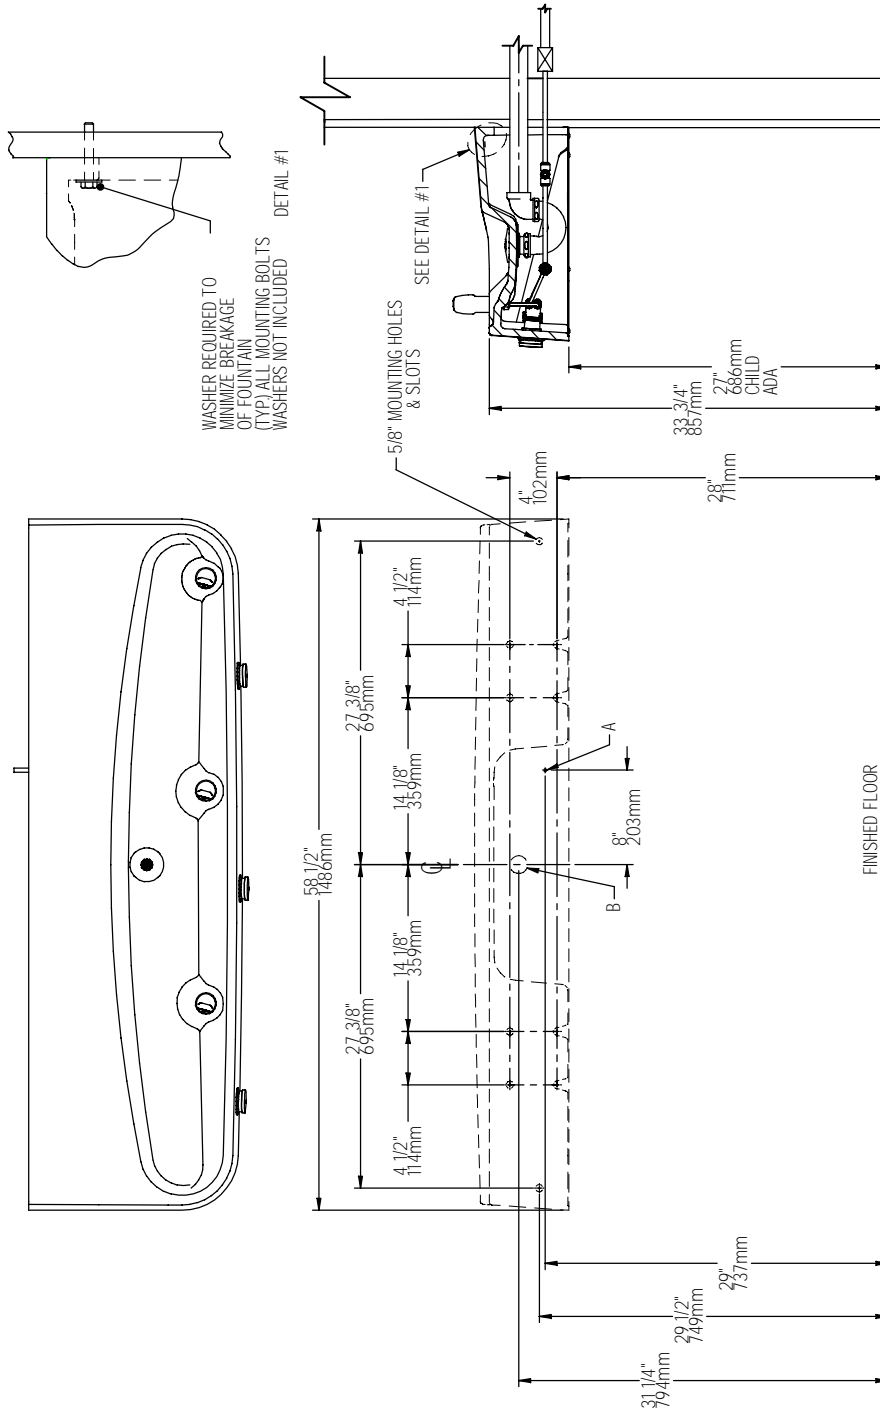

FIG. 3
1. Wall should already be framed for the fountain using the positioning dimensions shown in Figure 3 or 4. Shown dimensions pertain to installation location (framing must support up to 150 lbs. weight).
2. Install rough-in plumbing as shown in Figure 3 or 4. Run the supply water inlet line and connect to a service stop (not provided). Turn on supply water and flush thoroughly.
3. Remove bottom access panel from fountain basin and save the screws. Install the fountain to the wall using (10) 5/16" bolts and washers (not provided). Bolts should be long enough to securely fasten the fountain to the wall. Tighten securely, but do not over tighten. Over tightening will crack the fountain.